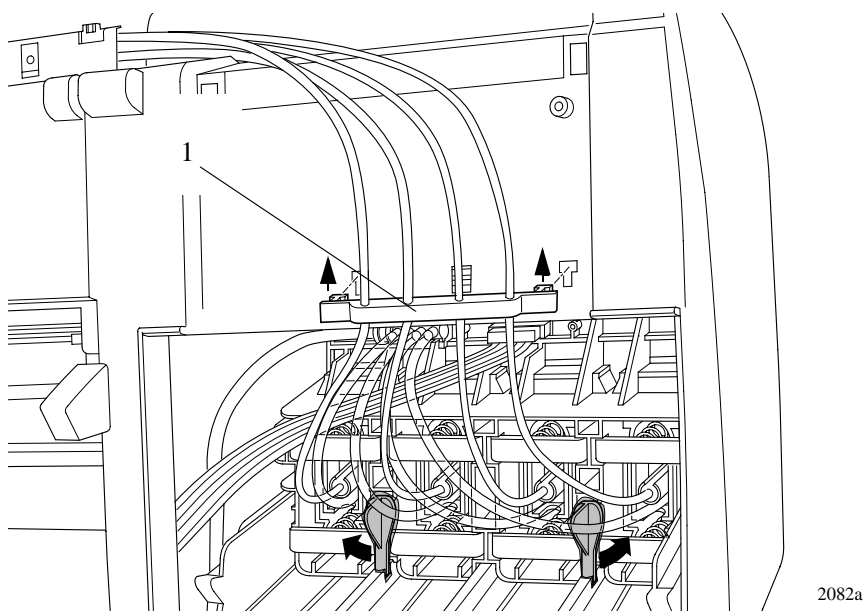

Figure 64: Rear Tube Grip
8. Release the tube holder (item 1) from the rear of the left hand cover by pushing it up and out (refer to Figure 64).